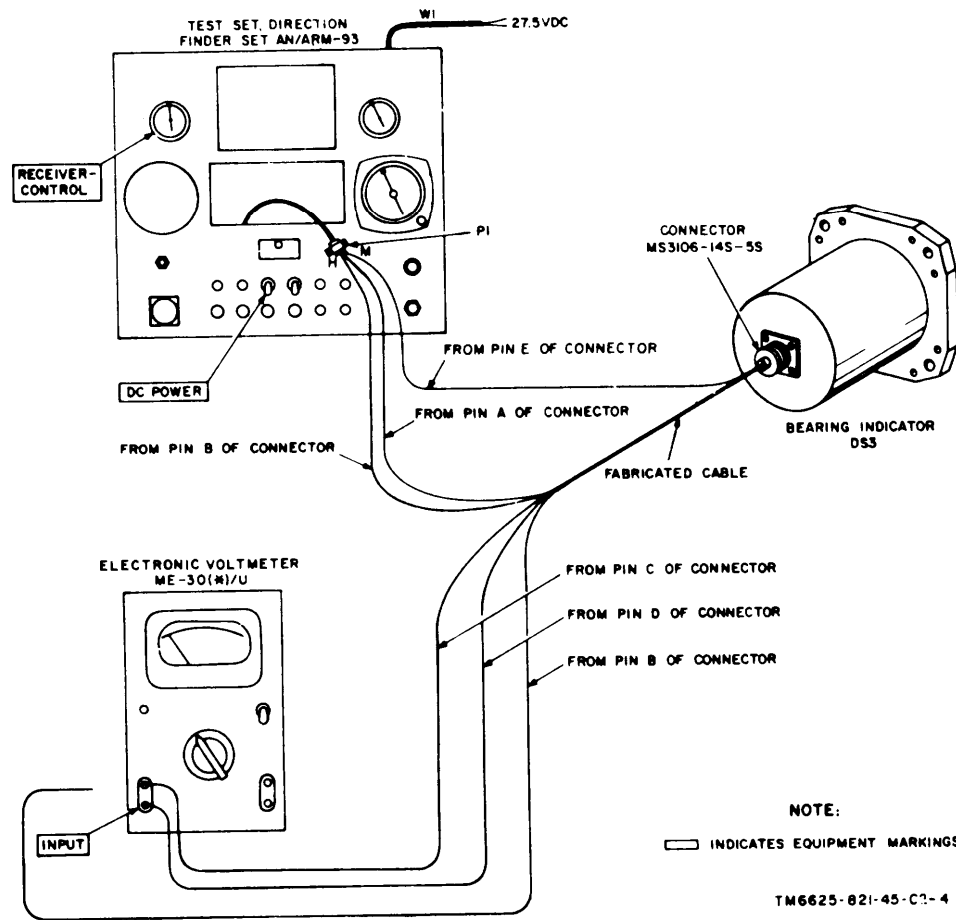

Figure 3-4. Test connections for BEARING INDICATOR adjustment.
- (1) Set the DC POWER switch to OFF.
- (2) Set the RECEIVER-CONTROL switch to CONTROL.
- (3) All other switches may be set to any position.
- e. Refer to figure 3-4, and connect the equipment as follows: